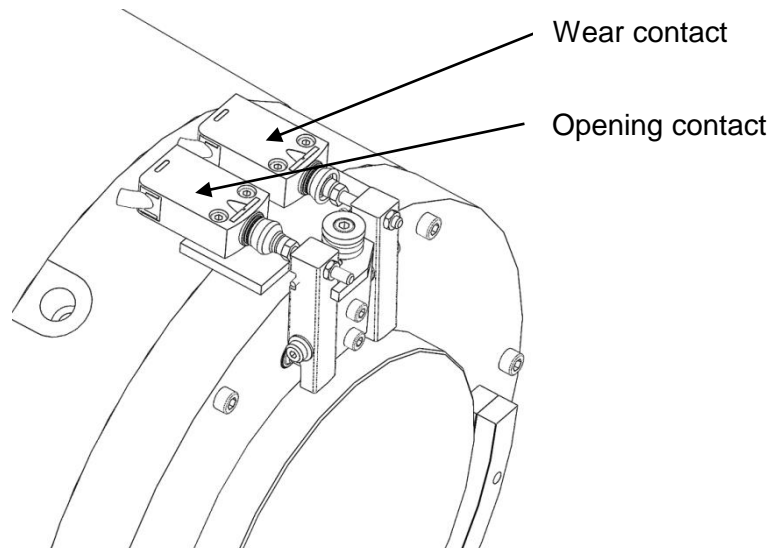

Fig. 5.7
6. Screw or unscrew using a open end wrench Fig.5.7 the wear take up screw **06** until the gap between the pad and the disc reaches the required value see identification plate “PG” Pad Gap.